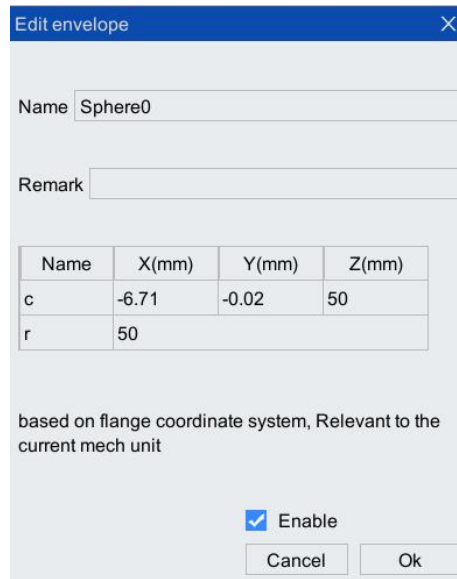

Figure 6-65 Editing interface of tool envelope ball "sphere0"
Step1. Setting of tool envelope. Set a tool envelope ball named "sphere0" to the tool. The radius of the tool envelope ball is 50mm. For details about center of envelope ball, please refer to Figure 6-65.